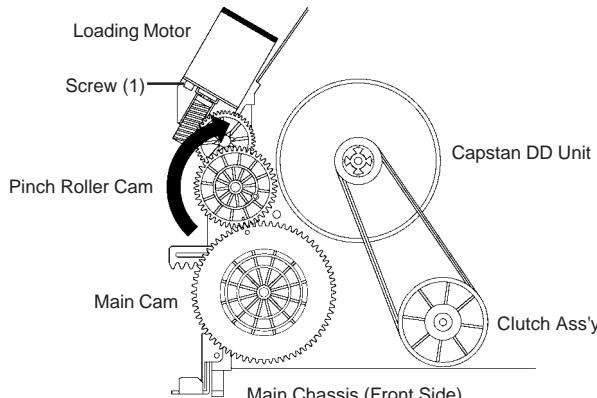

Fig. 2
1. Remove the Top Cabinet, Front Cabinet and DVD Block. (Refer to item 1 of the DISASSEMBLY INSTRUCTIONS.)
2. Remove the screw (1) of the Deck Chassis and remove the Loading Motor. (Refer to Fig. 2)